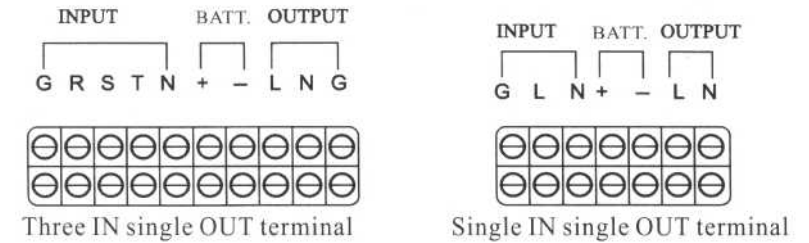

figure 7
1. Refer to figure 7 for wire connection